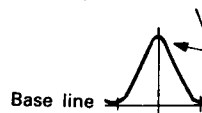

Fig. 14
4. Feed in a weak signal to TP2 from the genescope. Adjust T101 for maximum gain and the waveform indicated in Fig. 14. If the center of the waveform cannot be lined up on the marker, adjust the right/left balance.